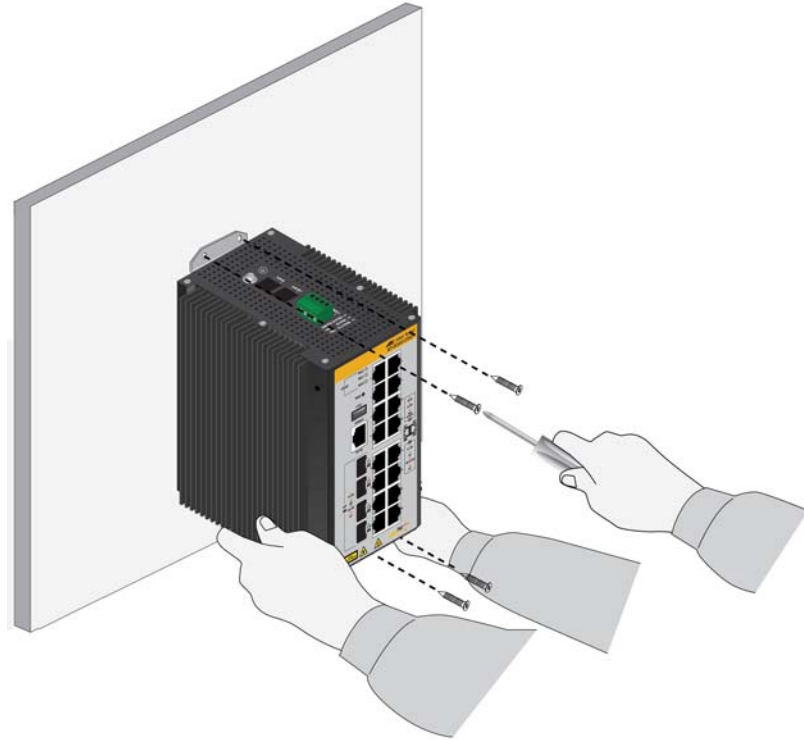

Figure 28. Installing the Switch on a Concrete Wall
8. Have another person hold the switch at the selected wall location while you secure it with four screws (not provided). Refer to Figure 28 on page 82.